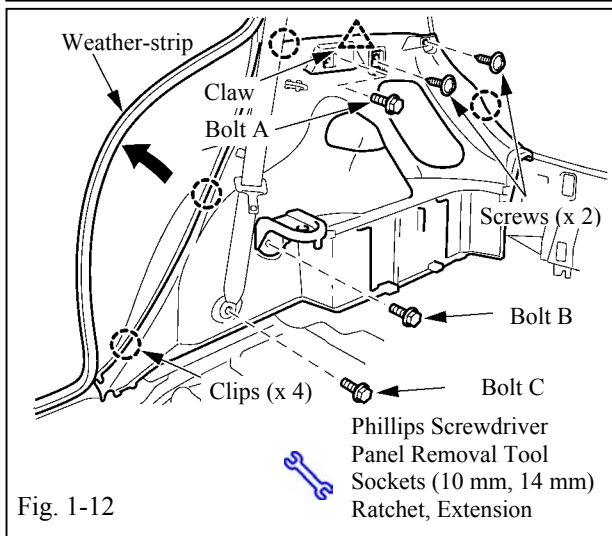

Fig. 1-12
- (n) Remove the passenger side deck trim side panel as follows (Fig. 1-12):
- (1) Remove screws and bolt A.
- (2) Remove bolt B, and then remove the rear seatback hinge.
- (p) Remove the weather-strip (Fig. 1-12)